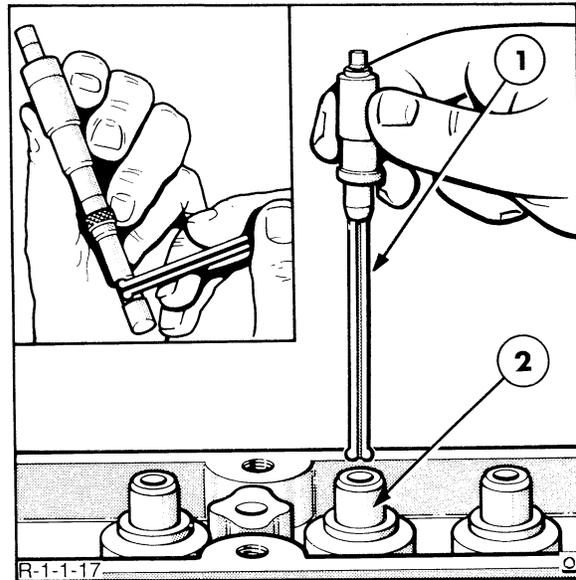

FIGURE 1-16
1. Using a telescopic gauge and micrometer, measure the valve to guide clearance, Figure 1-16. If the clearance exceeds the specified limits, ream the valve guide to fit the next oversize valve.